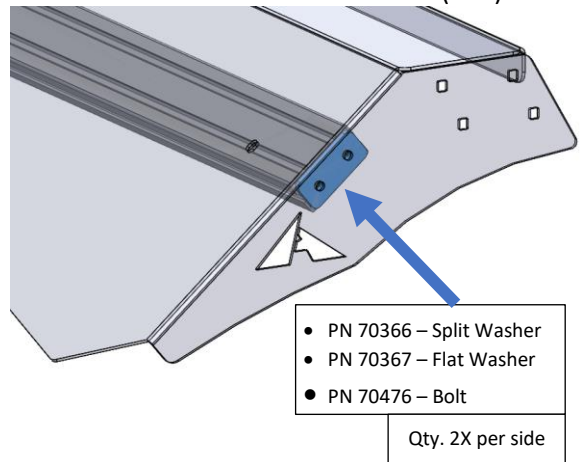

Figure 11: Air Dam Spacer Installation
- Install air dam spacer between crossbar and air dam inside edge (Figure 11). Use ¼"-20 hardware to fasten together. Repeat for both driver and passenger side.